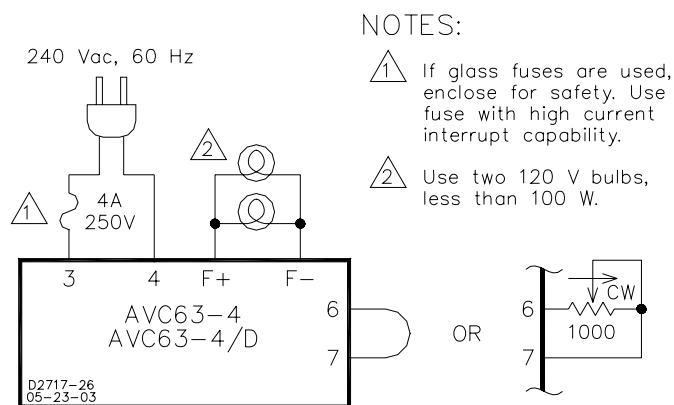

Figure 9. Operational Test Diagram
- Connect the analog voltage controller as shown in Figure 9. Do not apply power. Ensure that the light bulbs are rated for 120 volts and less than 100 watts.